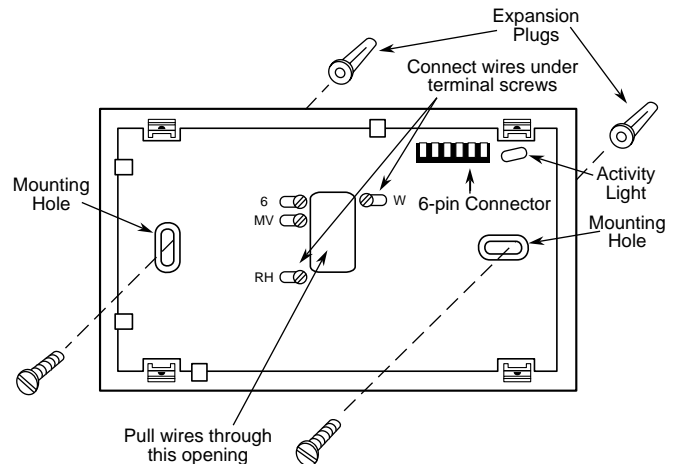

Figure 3. Subbase
3. Connect wires beneath terminal screws on subbase using appropriate wiring schematic (see figs. 3 through 6).
6. Fasten subbase loosely to wall, as shown in fig. 3, using two mounting screws. Place a level against bottom of subbase, adjust until level, and then tighten screws. (Leveling is for appearance only and will not affect thermostat operation.) If you are using existing mounting holes, or if holes drilled are too large and do not allow you to tighten subbase snugly, use plastic expansion plugs to secure subbase.